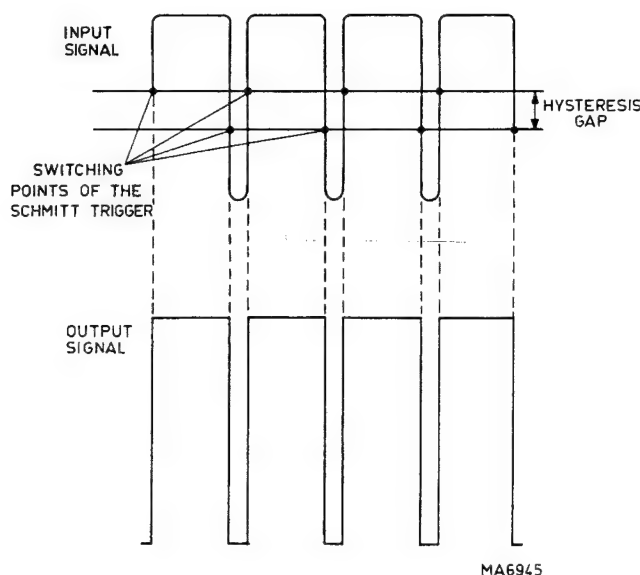

Fig. 3.7. Pulse shaper operation on receipt of trigger input signal
The amplified signal at the collector of TS406 is matched to the pulse shaper circuit by means of emitter-follower TS408. The amplified level of the signal is such that it exceeds the hysteresis gap (see Fig. 3.7.) of the Schmitt trigger pulse shaper formed by IC402(5) and IC402(1). In this way, switchover of the Schmitt trigger occurs on both positive and negative-going excursions of the input trigger signal and the fast switching action results in square wave outputs.
The trigger pulse shaper consists of transistors IC402(5) and IC402(1) in Schmitt trigger configuration. This pulse shaper circuit transforms the emitter output voltage of emitter-follower TS408 into a square-wave voltage of constant amplitude and width, having the same frequency as its input signal. Inset Fig. 3.7. shows how the output of the fast-acting Schmitt trigger circuit switches over when an input signal is applied. From this figure it is evident that the input signal should be of sufficient magnitude to exceed both limits of the hysteresis gap (switchover points) in order to obtain a square-wave output voltage.